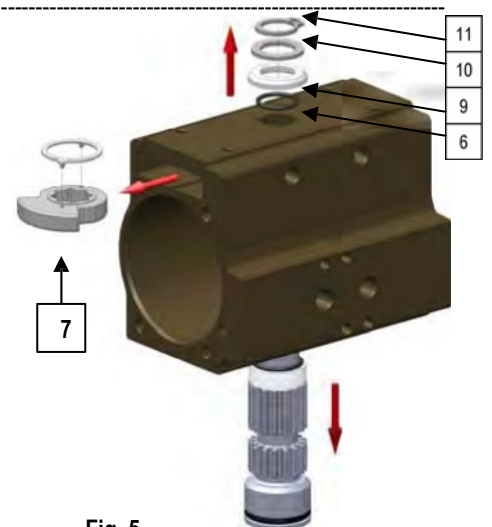

Fig. 5
9. Remove the snap ring (11) from the pinion (2), the washer (10), the spacer (9) and the O-ring (6) (see Fig. 5).
10. Extract the pinion (2) from the cylinder (1) by pushing it down, with special caution for all seatings (see Fig. 5). If necessary, use a rubber hammer.
11. Tilt the cylinder (1) and let the cam (7) slide out. (see Fig. 5).